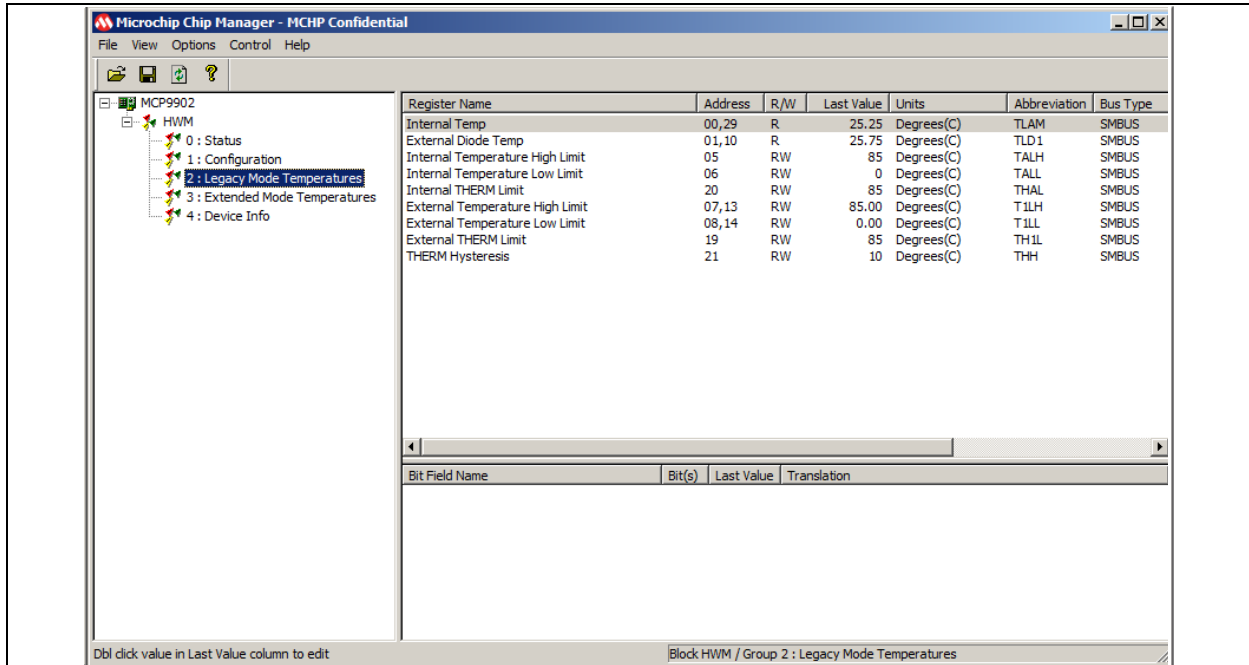

FIGURE 2-11: Chip Manager – Register Groups.
- From the Chip Manager main menu, ensure that *Options > Auto Refresh Registers* is checked. In the left panel, click the hardware monitor “HWM” to expand the content, then select any of the register groups, as shown in Figure 2-11. The SMB_ACT LED on the board starts blinking when any of the register groups are selected. The register values are automatically updated every second when the Auto Refresh option is on.